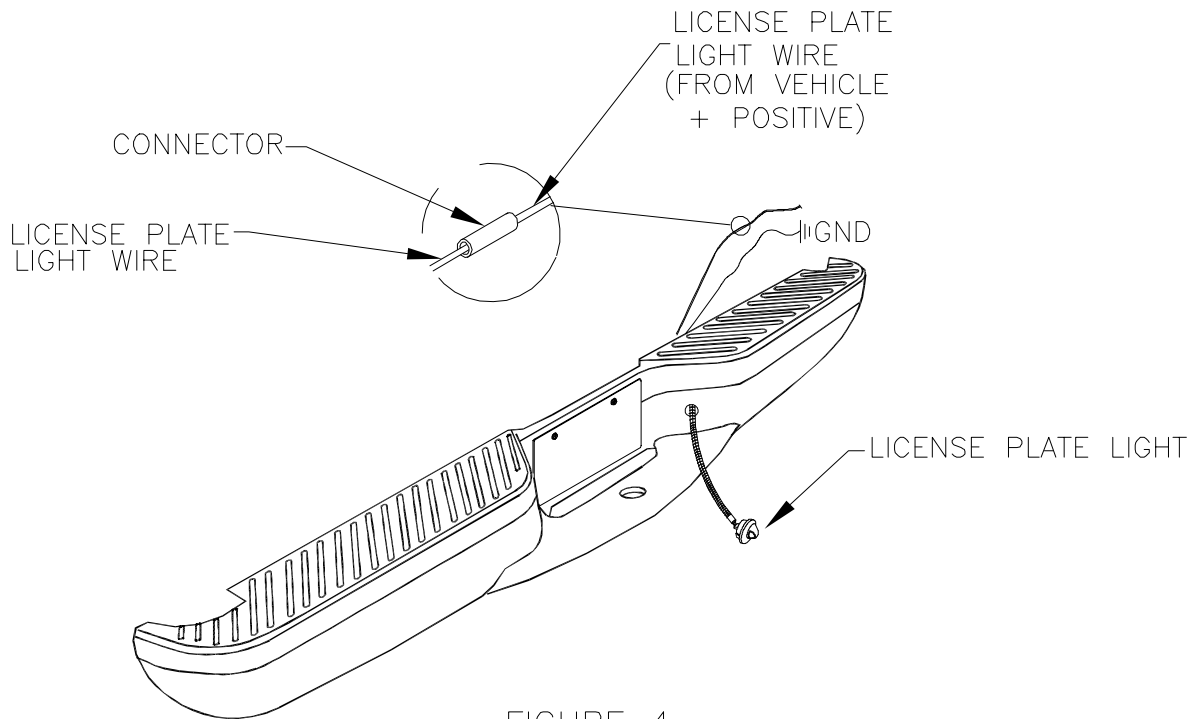

FIGURE 4
**STEP 7:** Install the license plate lights into the bumper. Splice the light wires into the truck's wiring using the supplied connectors. Check that the license plate lights are functioning properly before driving the vehicle at night. Refer to Figure 4.